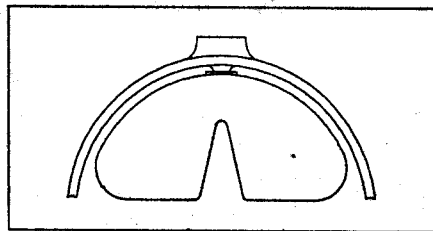

Figure 6-2: Cover plate of electrical reed vibrator in alignment with inside diameter of Proving Ring.
7. If the condition described above is experienced, loosen the rear cover plate screws 1 full turn and loosen the lock set screw 3/4 to 1 full turn. Then, shift the Electrical Reed Vibrator until the cover plate is brought into alignment with the inside diameter of the Proving Ring (see Figure 6-2). Alignment according to your sight is good enough. While holding the Electrical Reed Vibrator in alignment, tighten the rear cover plate screws. This should give a clamping action on the reed holder. If there is no clamping action refer to Step 8.